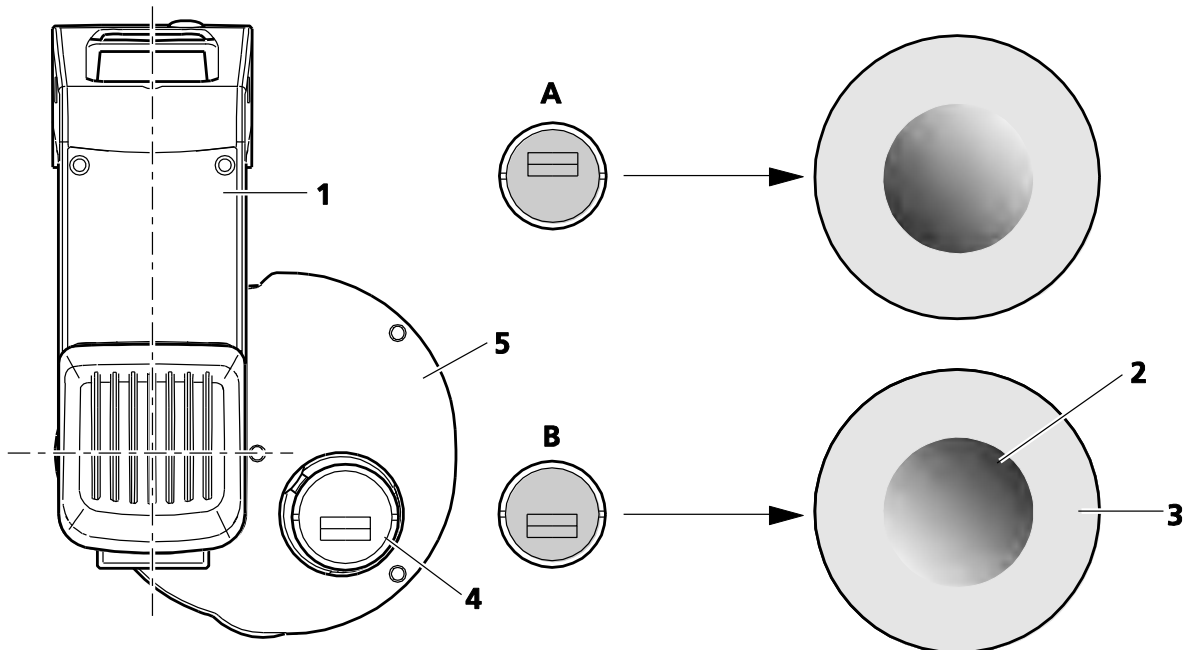

Fig. 4-10 Setting Relief Orientation on the iHMC
- Rotate in the condenser (Fig. 4-10/5) in such a way that its change position (Fig. 4-10/4) is located on the right-hand side of the transmitted light illumination carrier (Fig. 4-10/1). For this purpose, turn the clamping ring on the condenser to the left, lift it briefly and then rotate the condenser 90 degrees to the right until it locks into position.
- Rotate the iHMC position of the condenser into the change position (Fig. 4-10/4).
You can individually position the diaphragm of the iHMC module in the mount, according to the desired orientation of the relief impression (Fig. 4-10/2) in the field of view (Fig. 4-10/3). For that, see Examples **A** and **B** in Fig. 4-10.